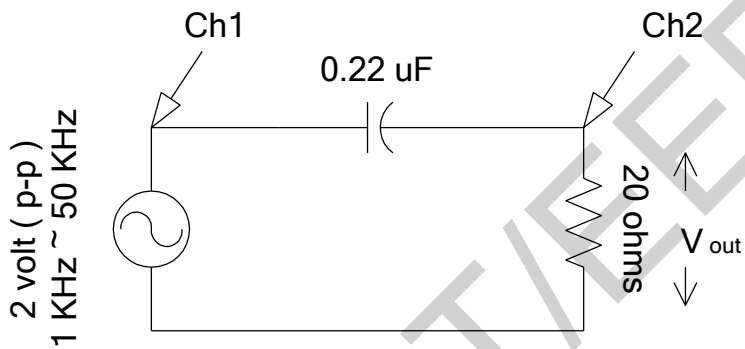

Figure 3: RC High pass Filter
An ideal high pass filter – blocks all signals below its cutoff frequency but passes all signals above cut off with no attenuation. A simple first order RC high pass filter is shown in figure 3. The gain of this filter is:
3. Now construct the circuit of figure 3 and repeat steps 1 and 2 and fill up table 2.